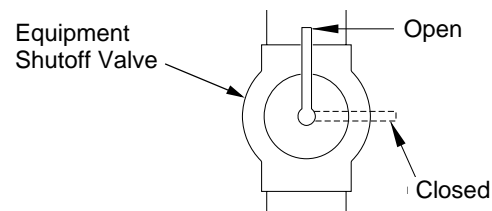

Figure 24 - Equipment Shutoff Valve
1. Close equipment shutoff valve (see Figure 24).
1. Open equipment shutoff valve (see Figure 24, page 14).